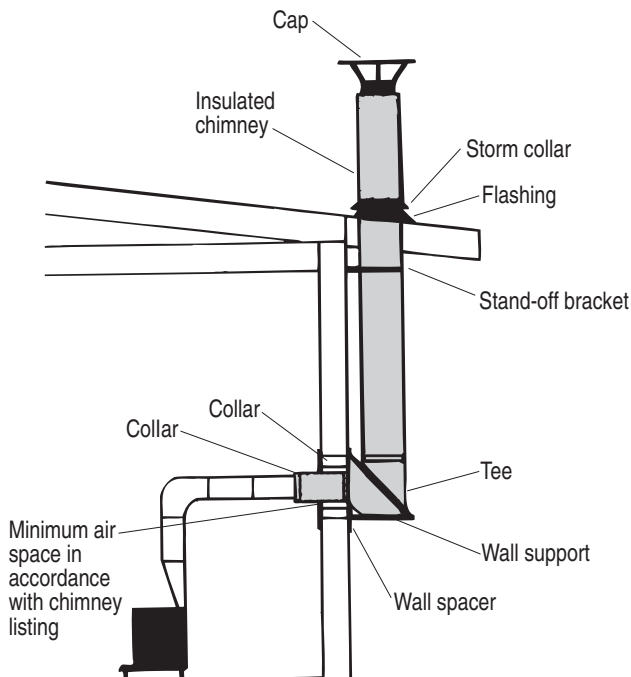

Figure 6–1. Factory-built chimneys
Factory-built chimneys are easier to erect than masonry ones (figure 6–1, page 34). Tests at the National Bureau of Standards have shown that metal and masonry chimneys differ little with respect to draft when used under similar conditions. Factory-built chimneys used with solid-fuel-burning appliances must be UL listed as HIGH TEMPERATURE (HT) chimneys. An exception to this is for some factory-built fireplaces and fireplace stoves. Follow the manufacturer's requirements for these. Do not use the UL-listed “vent” chimney, as it is not insulated or ventilated enough for wood or coal burning. A vent for a pellet-burning stove should be listed and labeled for such use.
A thimble may be permanently cemented into the chimney to facilitate removal of the connector for cleaning. Leave a small gap between the thimble and the wall-covering material to allow either the house or the chimney to settle slightly and not crack the thimble. The gap can be covered with a decorative flange (figure 6–2).